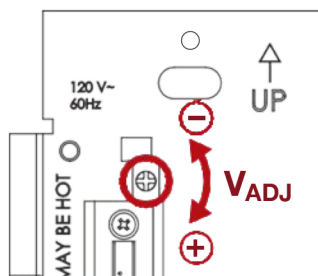

Figure 6
- Use a small screwdriver to adjust output voltage by turning adjustment dial clockwise, as shown in figure 6.